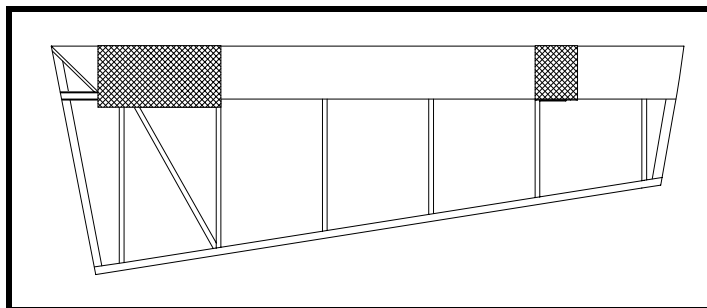

Figure 12
- ❑ Cover the two hinge “openings” with plastic food wrap and lay up two layers of 9 oz. fiberglass cloth and epoxy resin to make the two fairings. These are P/N 857-1 and 857-2. See Drawing No. 857 and 410. Make the fairing oversized for trimming at the final installation. See Figure 12.